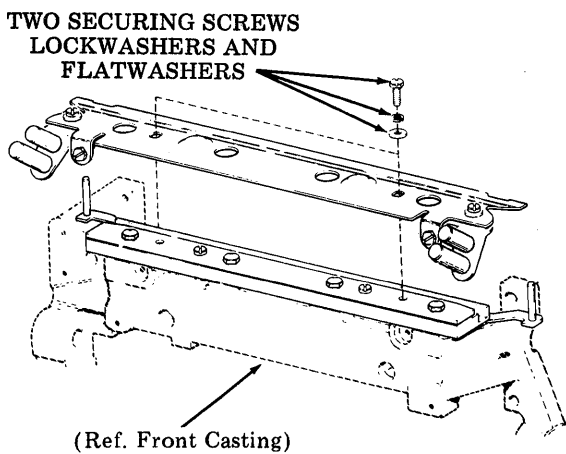

Fig. 39—Tear Bar Assembly
- (b) Remove the tear bar assembly by removing the two securing screws, lockwashers and flat washers (Fig. 39).
- (d) Reinstall the tear bar assembly (Fig. 39) and tighten the two securing screws while holding the tear bar assembly toward the rear of the unit.